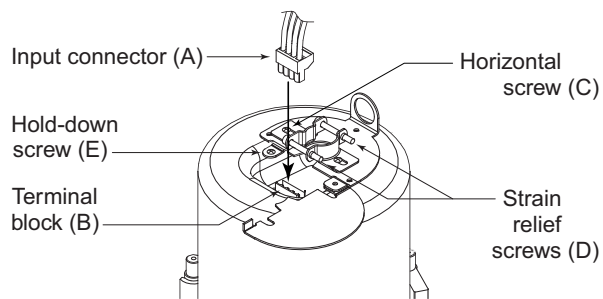

Figure13: Plug connector into socket
When all wiring has been completed to the connector, plug the input connector (A) into the socket in the speaker's terminal cup (B). See Figure 13. Tighten all screws to eliminate vibration.
Fully loosen the horizontal screw (C) shown in Figure 13, then the strain relief screws (D). Run the wires through the opening in the fitting and plug the input connector (A) into the speaker's terminal block (B). Then tighten the strain relief fitting as follows: